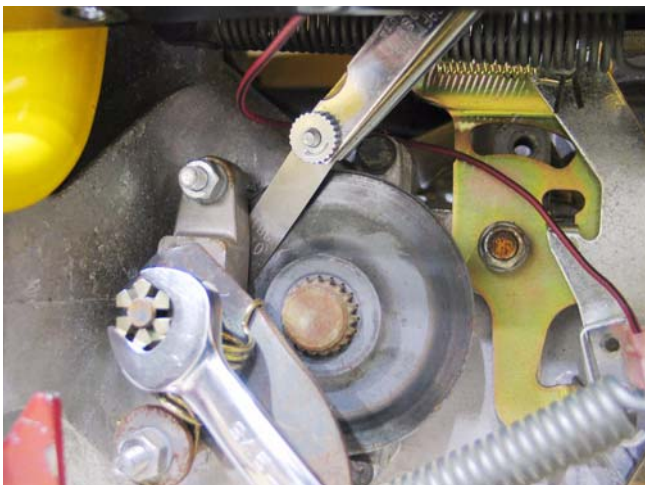

Figure 32.11
- 32.11. Remove and discard the cotter pin. A 1/2" wrench will turn the adjustment nut. See Figure 32.11.